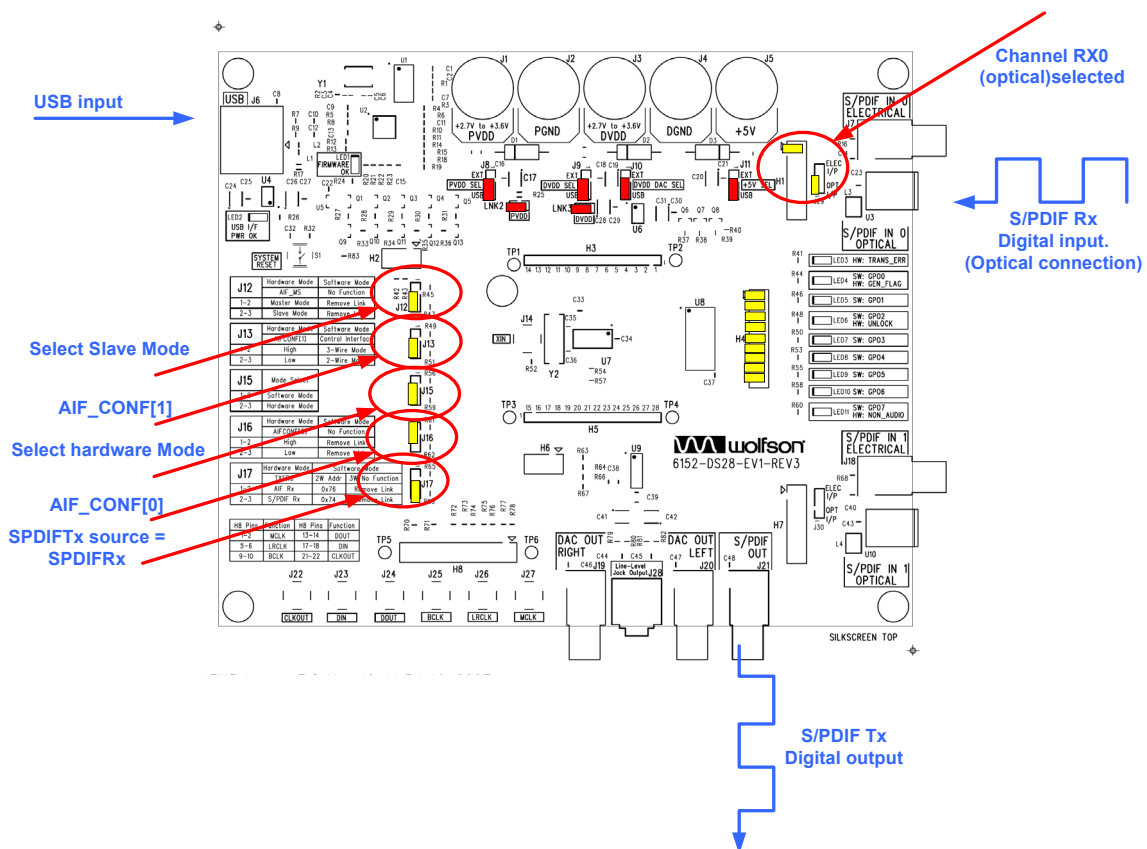

Figure 4 S/PDIF RX0 (optical) Input Path to S/PDIF TX Output Evaluation Board Configuration
- Figure 4 illustrates the jumpers which must be made on the board.
The jumpers, input signals and output signals are shown in Figure 4. The yellow jumpers are those that are required.